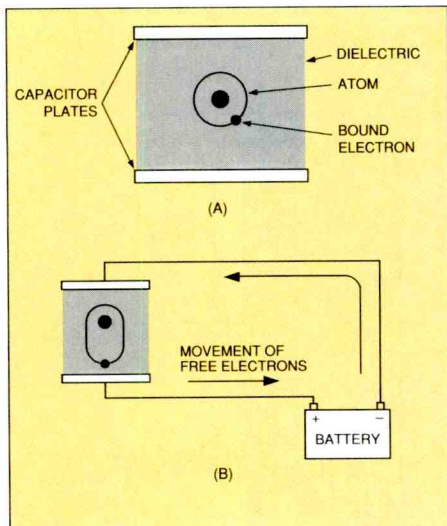

Figure 3
of Figure 3 is a representation of a single atom in a dielectric before a difference of potential is applied to the capacitor. Illustration (B) of Figure 3 depicts
I ought also to mention dielectric absorption before I conclude this section. Go back for a moment to Figure 3. Assume that you have exposed the dielectric to a high difference of potential (voltage) after which you connect the two plates together to neutralize the charge. The stress on the electron orbits of the dielectric has therefore been removed, permitting them to return to their normal orbital position. However, if you investigate the capacitor closely, you will find that a small difference of potential still appears between the two plates after the initial discharge. This indicates that the electron orbits in the dielectric did not instantly return to their original positions. The residual electron orbit displacement in the dielectric held an induced charge in the plates in the same manner that the charge was induced when the voltage was applied. Engineers call this effect "dielectric absorption."
What causes dielectric absorption? The potential energy of a charged capacitor is held in an electrostatic field that causes the dipoles in the dielectric to orient themselves along the lines of force (Figure 3). This is theory. In real life, all dielectrics have some degree of chemical polarity, meaning that some energy is stored as chemical changes in the dielectric molecules.